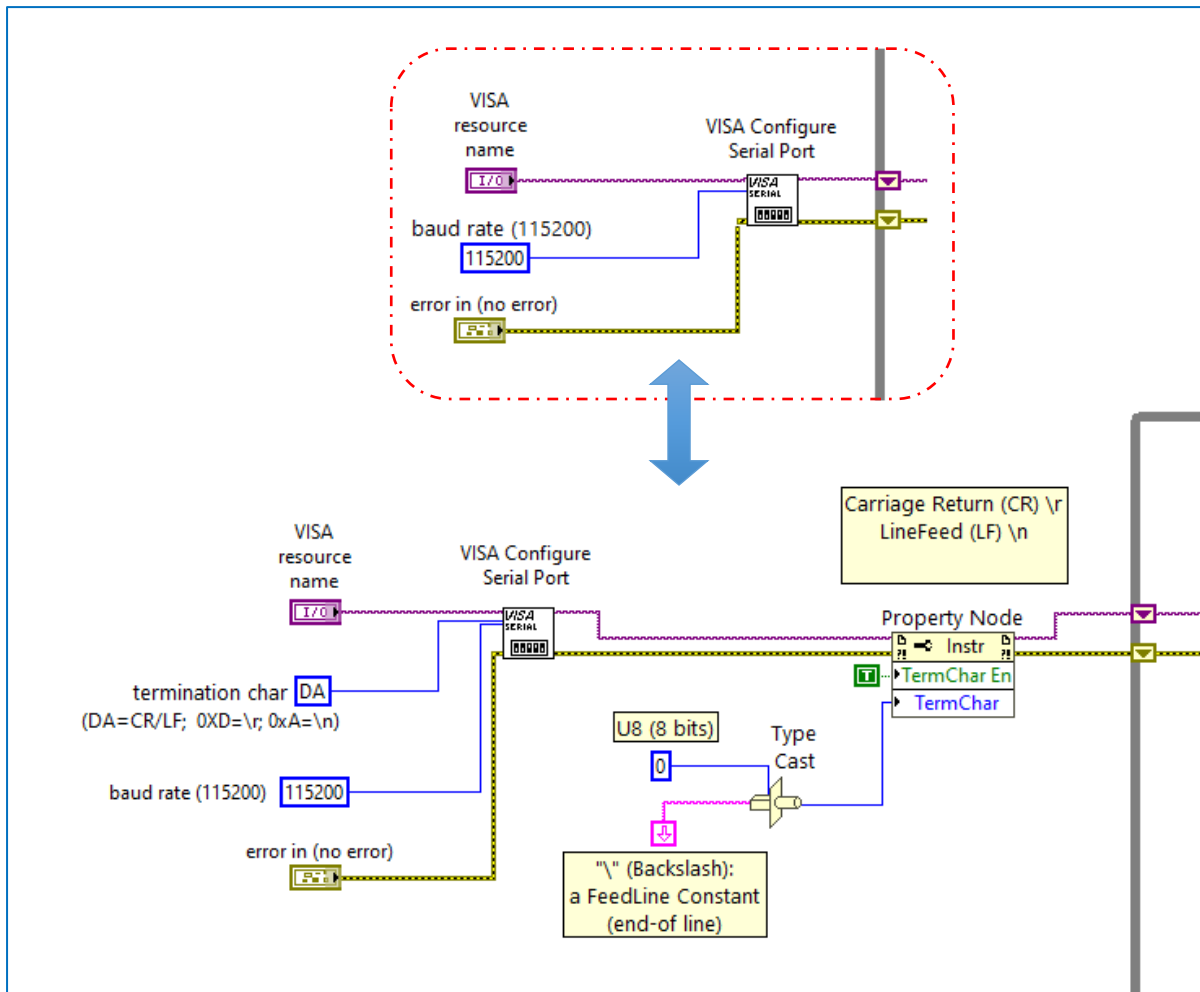

Figure 5. Block Diagram view: Configuration port section
5.- Let's start by changing the *Configuration port* section (figure 5) to make sure that the incoming data is received line by line.